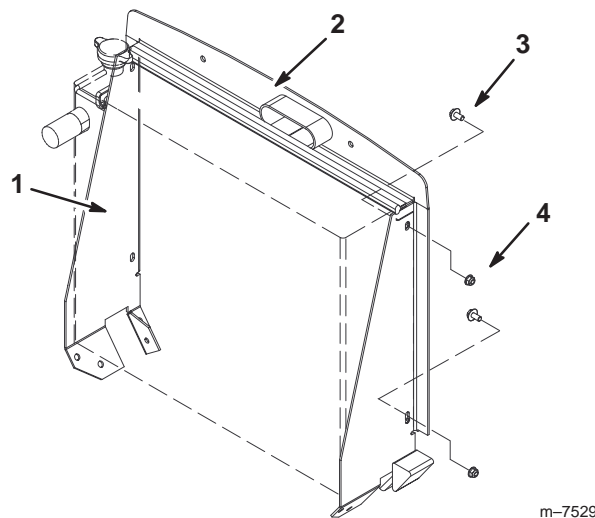

Figure 3
2. Disconnect the (2) coolant hoses from the radiator.
7. Remove the four bolts (5/16 x 5/8 inch) and lock nuts (5/16 inch) securing the radiator to the support (Fig. 3).
8. Remove the radiator (Fig. 3).